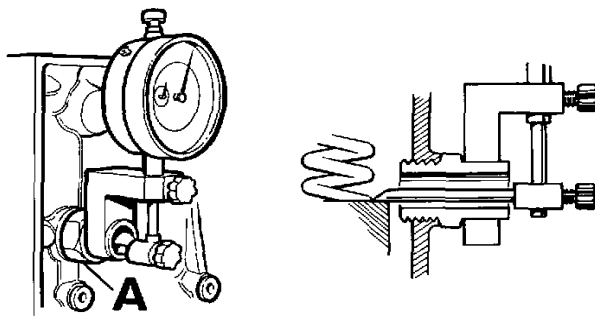

Fig. 119
6. Fit the tool's screwed sleeve, “A”, fig. 119, to the injection pump. **NOTE! Without washer.**